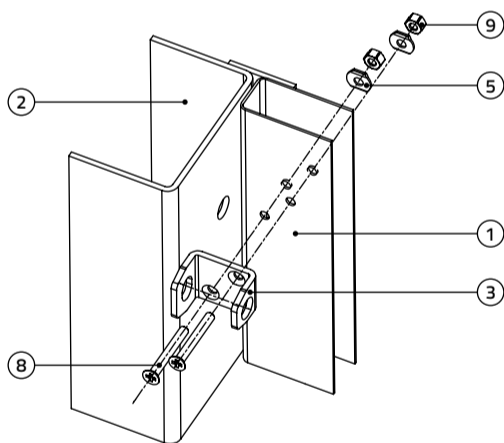

Figure 5
If you fix the base (3) to the door (gate) leaf (1) by means of M8 bolts (8), place the base (3) to the gate (gate door) leaf (1) and insert the M8 bolts (8) through the base (3) and the gate (gate door) leaf (1). Fit the washers (5) to the bolts protruding from the interior side and screw down the nuts M8 (9) – see Figure 5 herein. If necessary, shorten the M8 bolts (8).
If you fix the base (3) to the gate (gate door) leaf (1) by means of  $\varnothing 6$  mm screws (7), place the base (3) to the gate (gate door) leaf (1) and use two  $\varnothing 6$  mm screws (7) to fasten it – see Figure 5 in the Installation instructions for one-leaf doors or overhead gate doors with wooden doorcase.